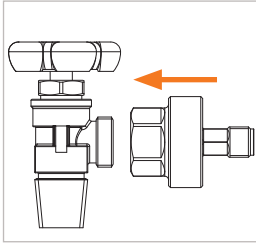

Figure 2
- ▶ Push the sealing shaft (Pos. 4) straight onto the cylinder valve (Figure 2).